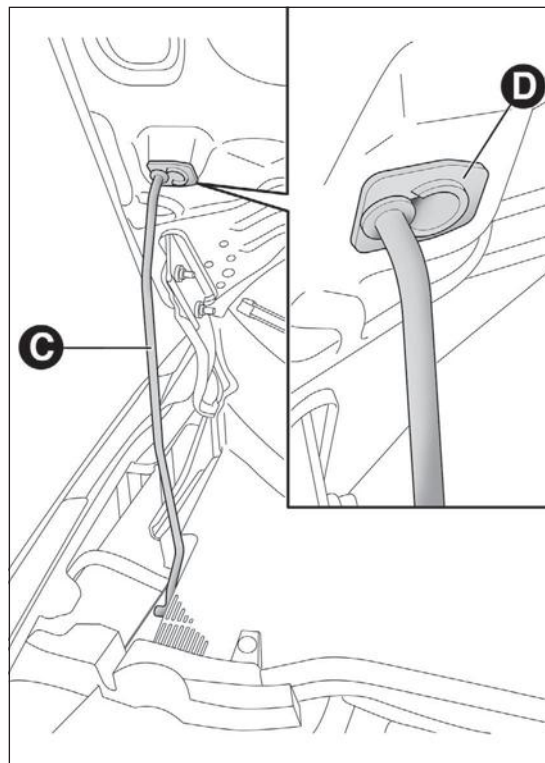

fig. 69
- ❑ lift the bonnet and, at the same time, release bonnet stay C fig. 69 from its locking device. Then, insert the end in housing D, making sure that the stay is engaged in the smallest opening of the retaining clip.
- ☐ hold the bonnet up with one hand and with the other remove rod C fig. 69 from housing D and fit it back into its locking device;